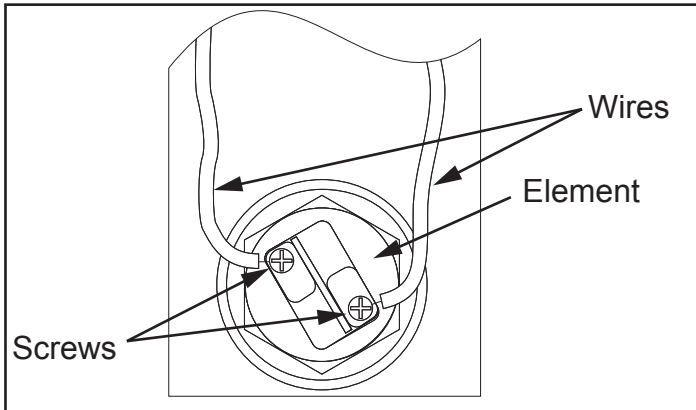
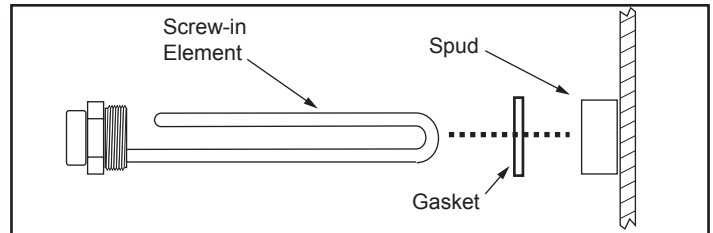

Figure 15. Heating Element Wiring
Figure 16. Heating Element Components
8. Disconnect the electrical wires from the heating element by loosening the screws (Figure 15). Remove the screw-in element by turning the element counterclockwise with a 1-1/2 inch socket wrench. Remove the existing gasket.
10. Make sure the replacement element has the correct voltage and wattage rating and shape by matching it to the rating plate on the water heater. Position the new gasket(s) on the element and insert it into the water heater tank (Figure 16). Tighten the element by turning it clockwise until secure.
11. Close the drain valve and open the nearest hot water faucet. Then open the cold water shut off valve and allow the tank to fill completely with water. To purge the lines of any excess air and sediment, keep the hot water faucet open for three (3) minutes after a constant flow of water is obtained.
13. Reconnect the electrical wires to the element and securely tighten the screws (Figure 15).